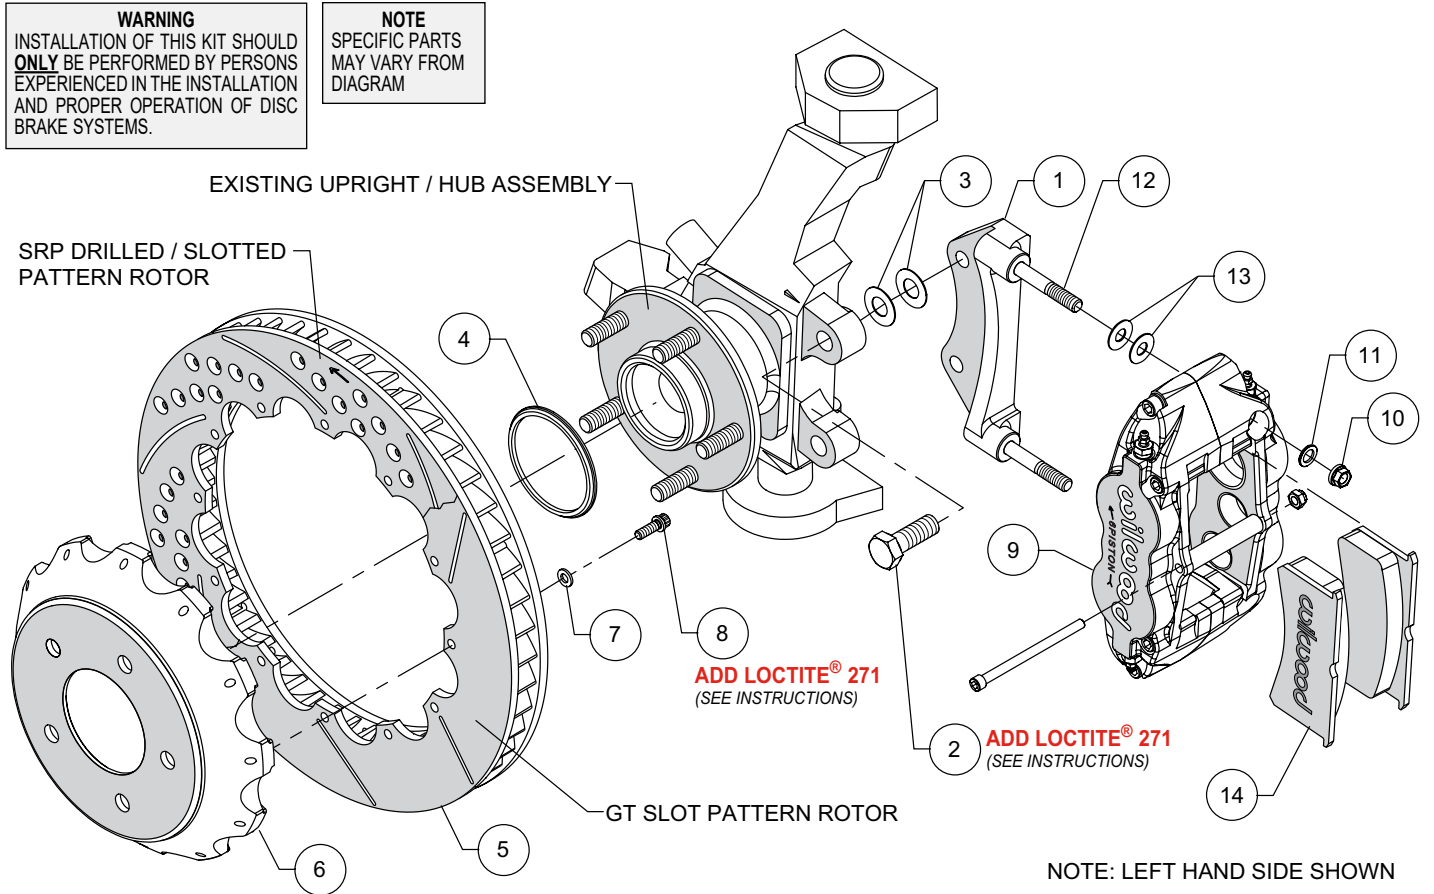
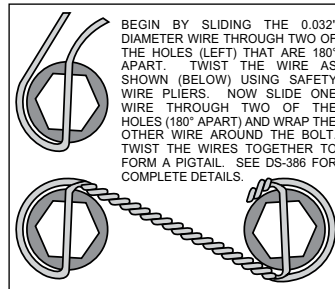

Figure 1. Typical Installation Configuration
Figure 3. Safety Wire Diagram
**NOTE:** Numbers in parenthesis refer to the parts list and Figure 1 on the preceding pages.
- The caliper mount bracket (1) should initially be installed with clean, dry threads on the mounting bolts. Orient the bracket as shown in Figure 1 and Photo 1, and install using shim washers (3) and bolts (2). Initially place two shims (3) on each bolt between the bracket and upright, Figure 1. Temporarily tighten the mounting bolts. **NOTE:** *The bracket must fit squarely against the mount bosses on the upright.* Inspect for interference from casting irregularities, machining ridges, burrs, etc. Later, after the caliper alignment has been checked, the mount bolts will be secured using red *Loctite*® 271.
- Orient the rotor (5) and the hat (6) as shown in Figure 1 and Photo 2. Attach rotor to hat using bolts (8) and washers (7). Apply red *Loctite*® 271 to the bolt threads and torque to 155 in-lb using a criss-cross pattern. For an added measure of security, the bolts may be safety wired using standard 0.032 inch diameter stainless steel safety wire as shown in Figure 3. Please refer to Wilwood's data sheet DS-386 (available at [www.wilwood.com/Pdf/DataSheets/ds386.pdf](http://www.wilwood.com/Pdf/DataSheets/ds386.pdf)) for complete safety wire installation instructions.
- Slide the rotor registration adapter (4) onto the axle register on the axle hub with the smaller O.D. facing outward, Photo 3. Slide the hat/rotor assembly onto the axle hub. **NOTE:** *The hat must fit flush against the axle hub flange or excessive rotor run out may result.* Install three lug nuts (finger tight) to keep the hat/rotor assembly in place while continuing with the installation.
- NOTE:** *This kit contains distinct right and left hand calipers that must be mounted in a specific direction, as described below.* Initially place two .035" thick shims (13) on each stud (12) as shown in Figure 1 and Photo 4. Mount the caliper (9) onto the bracket (1) using lock nuts (10) and washers (11), Figure 1. Ensure that the caliper is mounted so that the largest pistons are at the rotor exit end of the caliper, in relation to the direction of rotor rotation. Temporarily tighten the lock nuts and view the rotor through the top opening of the caliper. The rotor should be centered in the caliper, Photo 5. If not, adjust by adding or subtracting shims (3) between the bracket and the upright. Always use the same amount of shims on each of the two mounting bolts. Once the caliper alignment is correct, remove the bracket mounting bolts one at a time, apply red *Loctite*® 271 to the threads, and torque to 75 ft-lb.